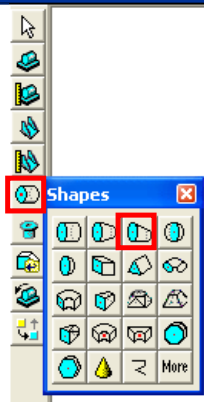

Figure 16: Place Shape Button and Eccentric Cone Shape
15. Click the **Place Shape** button on the vertical toolbar and select the **EccentricCone 001** shape, as shown in Figure 16.